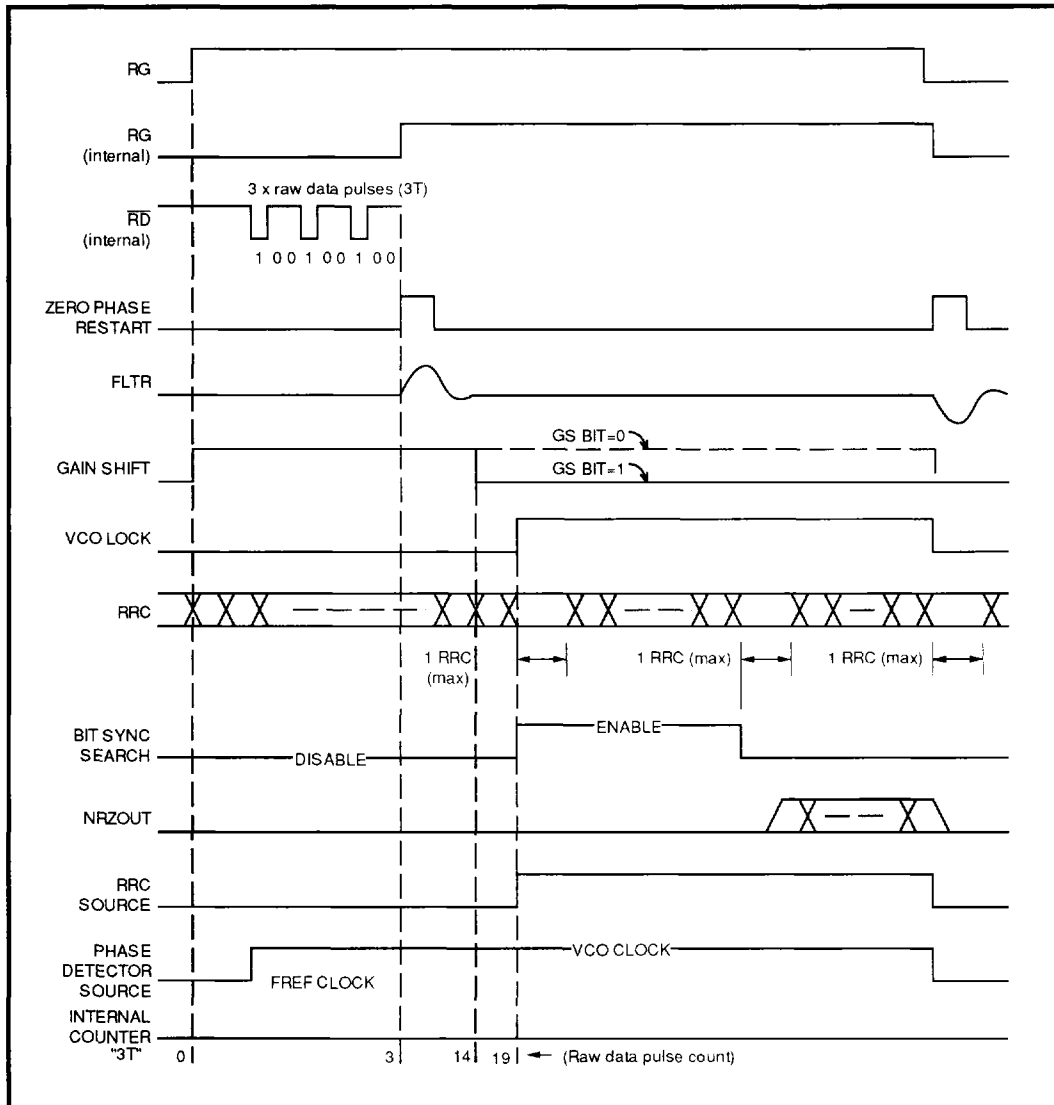

FIGURE 14: Read Mode Locking Sequence
After the address mark (AM) has been detected, RG can be asserted to initiate the preamble search. When RG is asserted, an internal counter is triggered to count positive transitions of the incoming read data, RD. Once the counter reaches count 3 (3 consecutive 3T patterns detected) the internal read gate is enabled. This switches the phase detector reference from the internal time base to the delayed read data ( $\overline{DRD}$ ) signal. At the same time an internal zero phase restart signal restarts the VCO in phase with the  $\overline{DRD}$ . This prepares the VCO to be synchronized to data when the bit sync circuitry is enabled after VCO lock is established, see Figure 14.